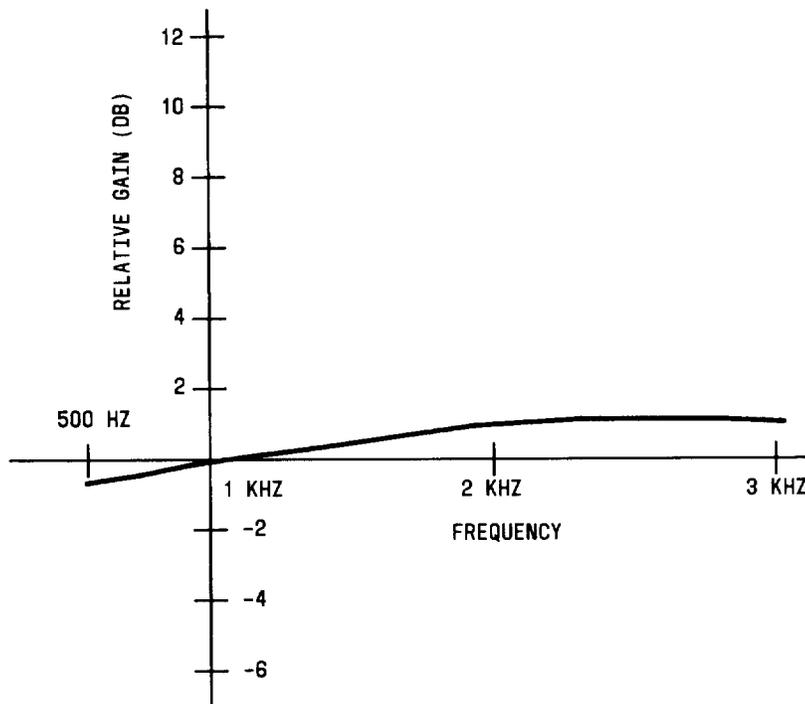

Fig. 3—Gain Frequency Response of J99343GC Combined Function Unit
3.02 Figure 3 gives the amplifier frequency response of the unit.
Equalization	Fixed (Fig. 3)